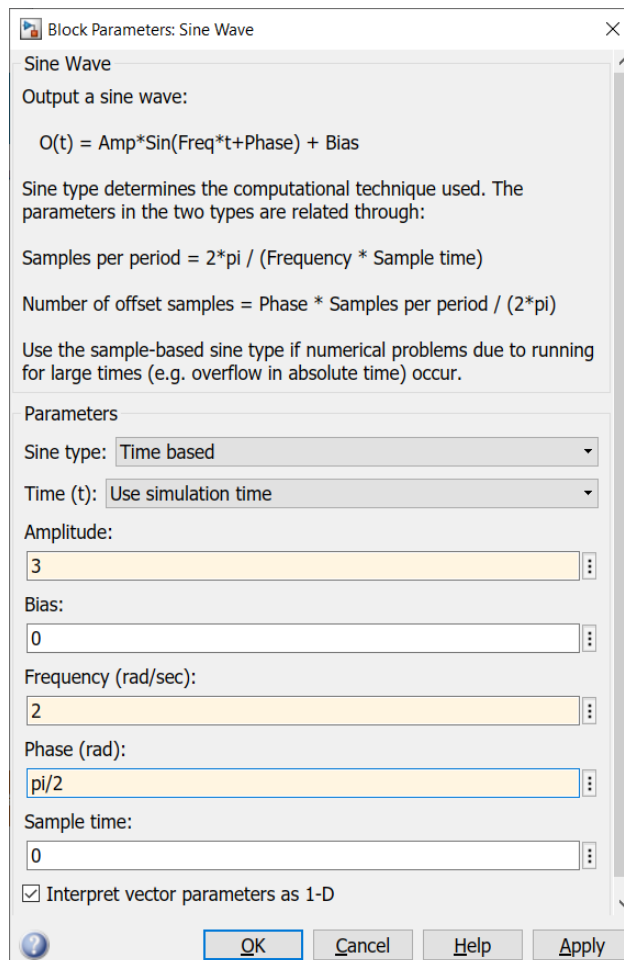

Figure 12 Settings of sine wave signal
- Double-click the SineWave block, do some changes as shown in **Fig. 12**.